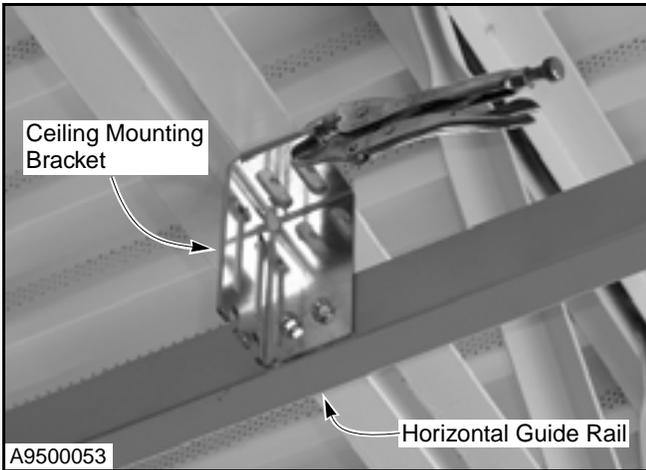

Figure 50
4. Install the ceiling mounting brackets. (See Figure 50.)